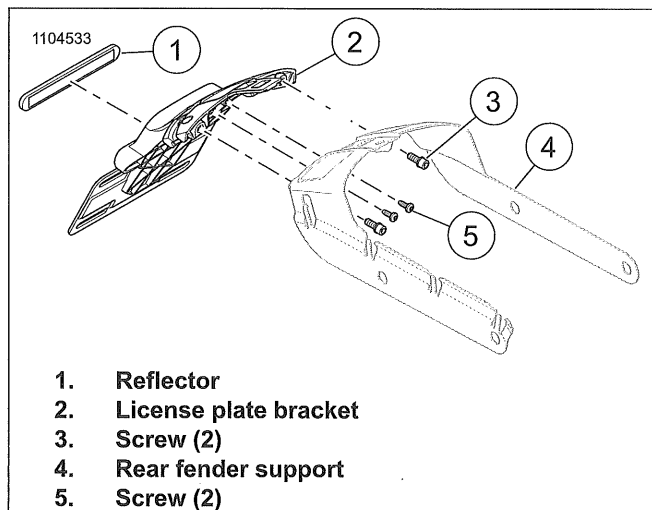

Figure 3-129. Center Mount License Plate Bracket
1. See Figure 3-129. Remove center mounted license plate bracket.
- b. Remove screws (3,5) from rear fender support (4).
- c. Separate license plate bracket (2) from rear fender support.